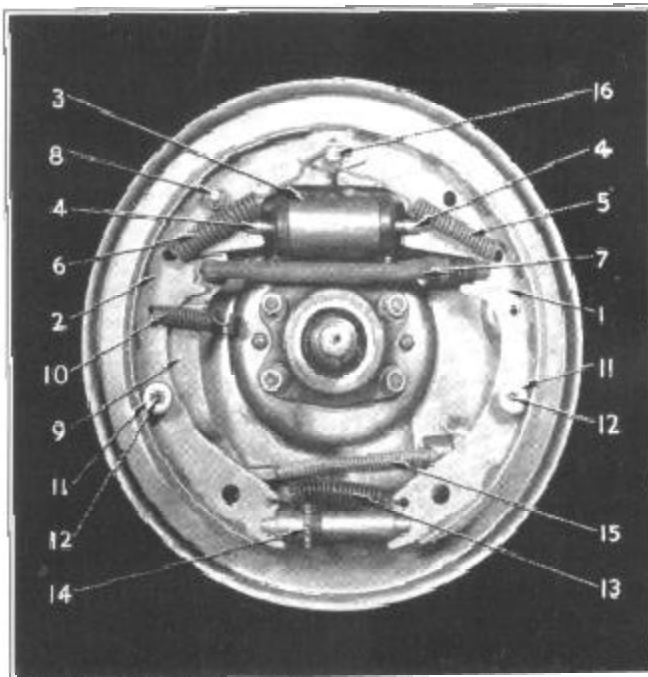

Figure 7
6. Push cable into conduit and after shoes have been installed, connect cable to shoe operating lever (9), Figure 7, leaving adjustable yoke end of cable disconnected.
2. Remove retracting springs (5) and (6), Figure 7, from primary and secondary shoes (1) and (2).
3. Remove brake shoe hold-down spring cups (11), springs and spring pins (12).
4. Remove shoes (1) and (2).
5. Remove brake adjusting screw spring (13) and screw (14).
6. Remove shoe to cylinder links (4) and shoe cable lever to shoe pin (8) on rear brakes.
7. Disconnect rear brake cable (15) from shoe cable lever (9) and remove shoe to anchor bracket spring (10) and shoe cable lever strut (7), also on rear brakes.